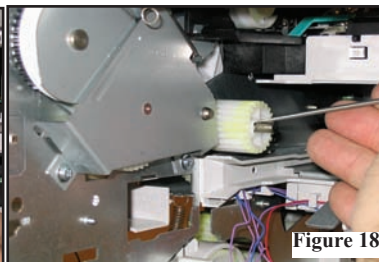
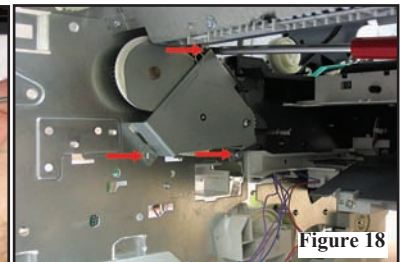

Figure 18 - Remove the 23-tooth white gear.
Figure 19 - The red arrows indicate the three screws that hold on the swing plate assembly.
13. Finally, remove the white 23-tooth gear (Figure 18) and the three screws that hold the swing plate assembly in place (Figure 19, arrows). You can now remove the swing plate assembly.